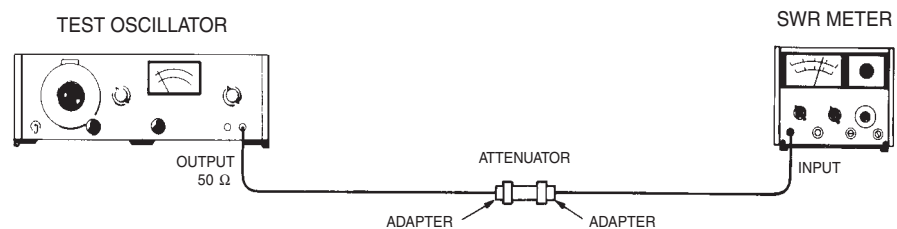

Figure 1
1. Connect the equipment as shown in the Figure 1 except remove the attenuator and connect the adapters directly together.